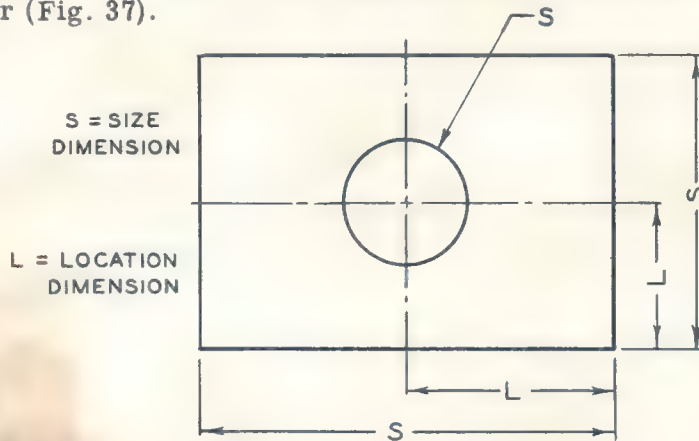

FIG. 37 DIMENSIONS INDICATING SIZE AND LOCATION
Dimensions used in building a part are sometimes referred to as "construction dimensions". Such dimensions serve two purposes: (1) they indicate size and (2) they give exact locations. For example, to drill a through hole in a part, the mechanic must know two things: (1) the diameter of the hole and (2) the exact location of the center (Fig. 37).